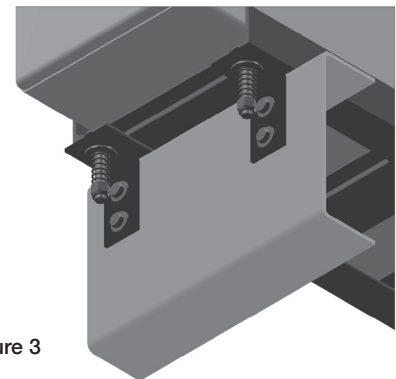

Figure 3
6. Reposition tank over pads and angles, install bolts and springs, as shown in image (Figure 3), tighten nuts until compressed length of spring is $1\frac{1}{2}$ ". Do not compress spring completely.